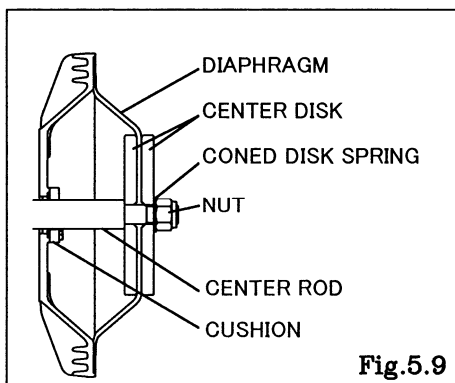

Fig.5.9
- Fix a double nut to one end of the center rod and take the diaphragm and center disk off the opposite end. [Fig.5.9]
- Insert the cushion (except with the NDP-80). (cf. Fig.5.9)
- Draw the center disk to one side (exclude B_H, B_S type cf. Fig.5.9).